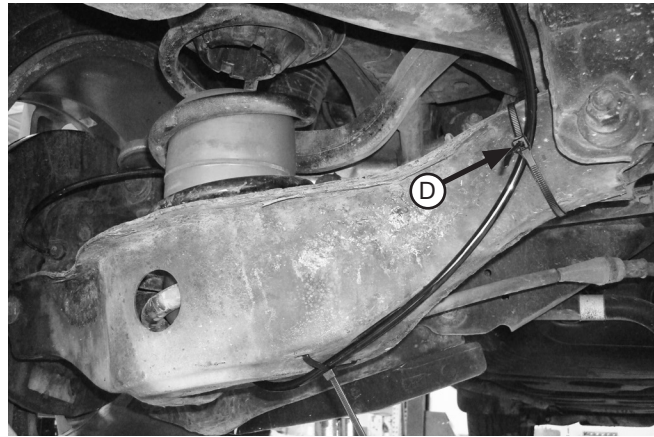

Fig. 7
7. Route the air line behind and over to the lower control arm pivot point and secure air line using a zip tie (D) (Fig. 7).